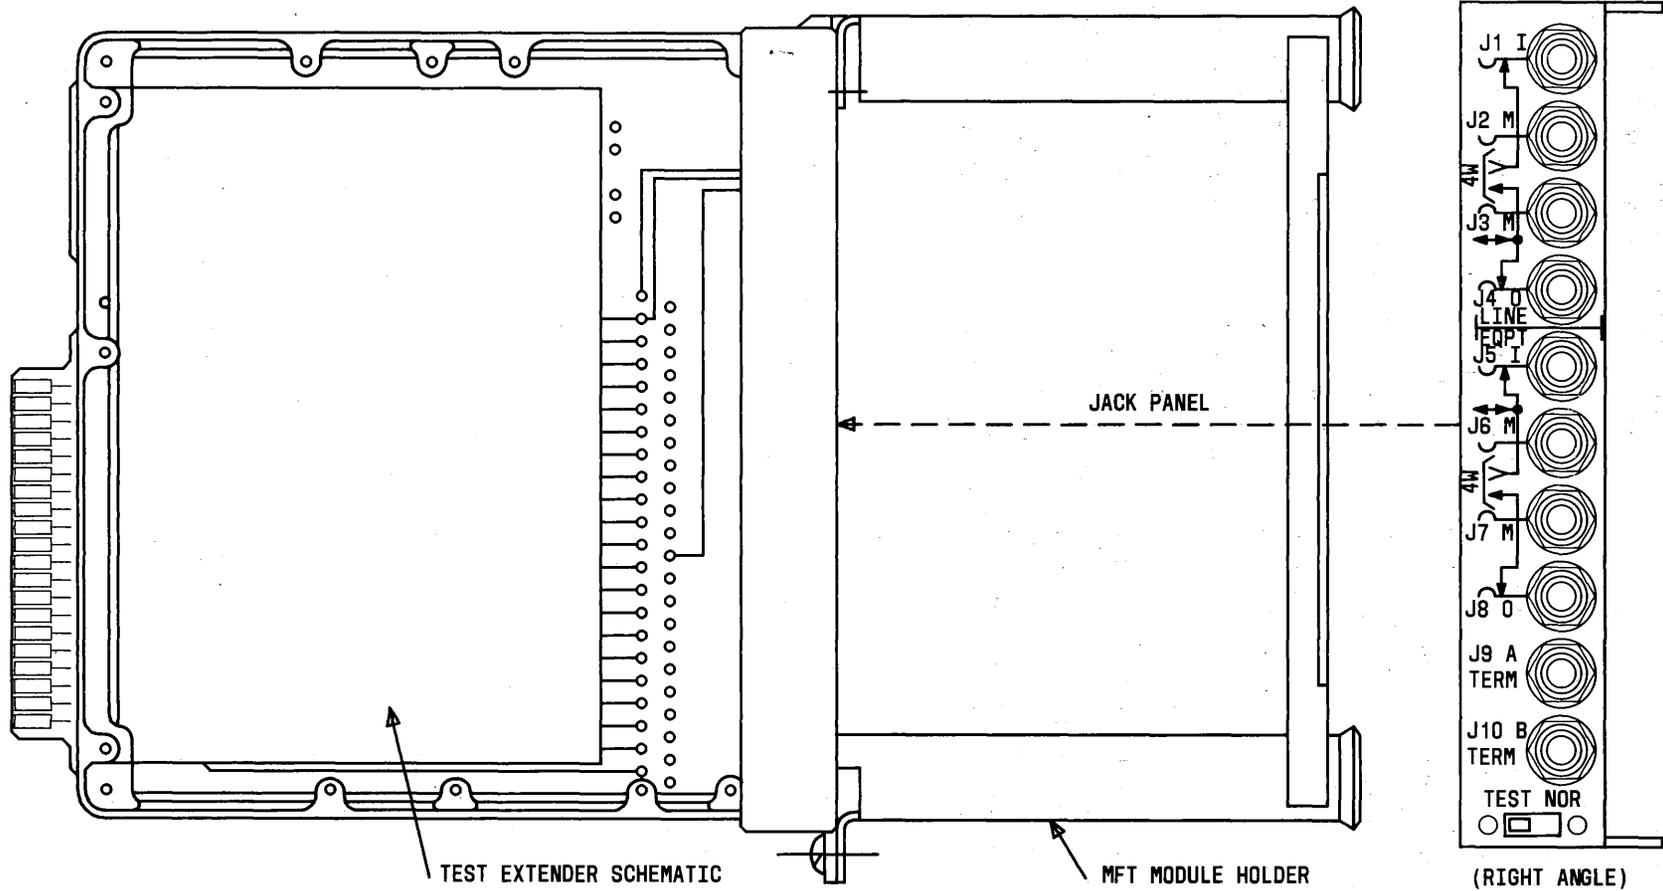

Fig. 4—J99400TA Test Extender
**5.01** The J99400TA test extender assembly (SD-7C094) has been designed for use with the J99400 family of housings but can be used on any MFT shelf. This test extender provides for full extension of a powered MFT module outside the housing. This permits complete access to adjustments on the MFT module under test as well as adjustments on the test extender itself. The J99400TA test extender is illustrated in Fig. 4. A functional schematic decal for the test extender jack field and switches is mounted on the wiring side of the printed wiring board as an aid to the user.